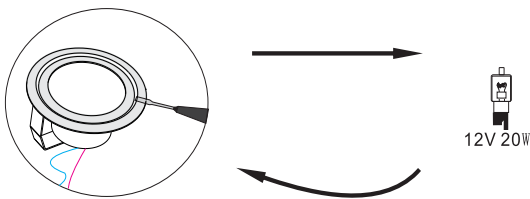

FIG. 17
3. Using a small, flat-head screw driver pop off the glass plate. See Fig. 17 above.